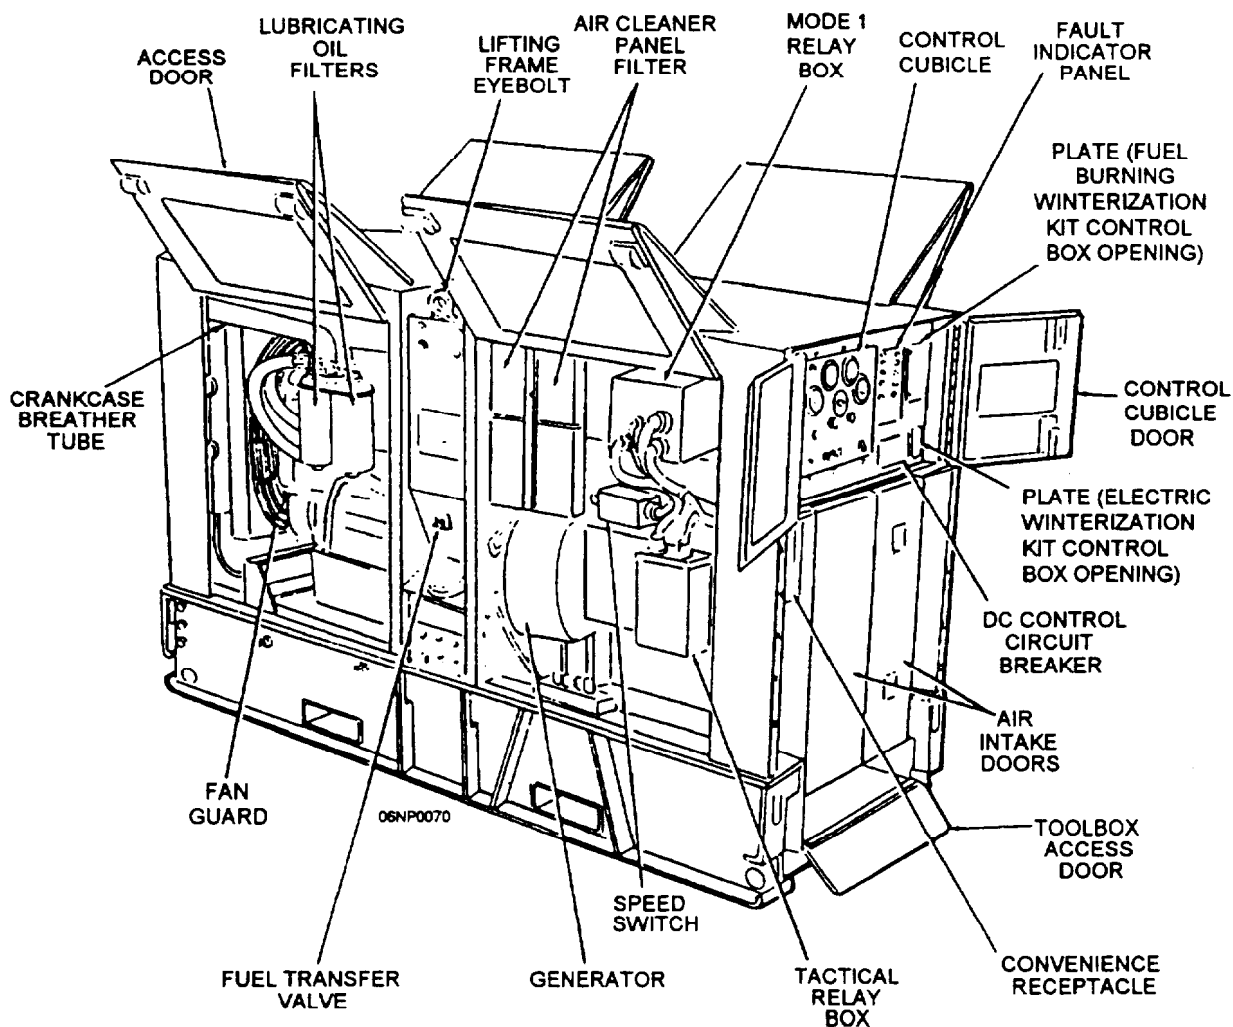

Figure 3-15.—Generator set, left rear, three-quarters view.
5. Air intake system. Check the air intake system cleaner for excessive dirt (see AIR CLEANER PANEL FILTER, fig. 3-15); remove and clean the air cleaner panels as required. Check the air intake louvers and radiator grille for freedom of motion, and ensure that they are not clogged.
11. Set controls and instrumentation. Inspect meters and gauges at the control cubicle (fig. 3-15) for bent pointers, broken glass, unreadable dial faces, and restricted movement of pointers. Clean gauges and meter faces with a lint-free cloth.
1. Open the CONTROL CUBICLE and AIR INTAKE DOORS (fig. 3-15). Close the HOUSING PANEL (ACCESS) DOORS,
2. Set the FUEL TRANSFER VALVE (fig.3-15) to the desired source of fuel, preferably the auxiliary tank, if it is connected.